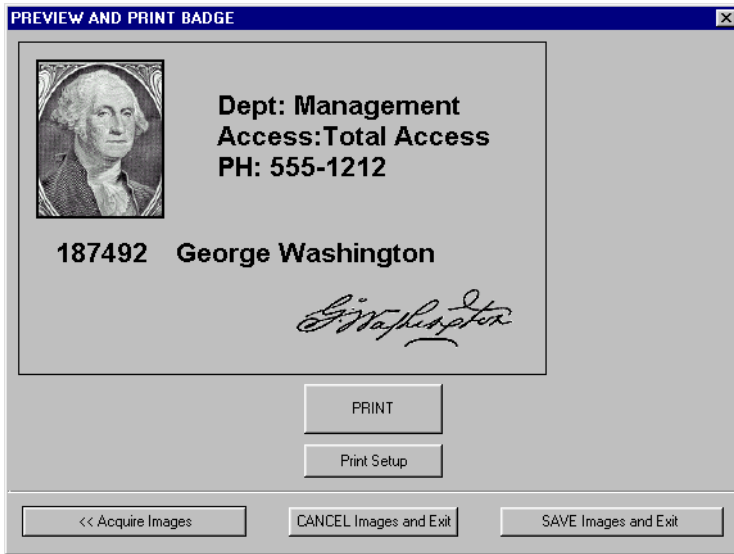

Figure 35: Preview and Print Badge Single-Sided
1. Click the  button and the Preview and Print Badge window opens and a sample of the badge is displayed (see Figure 35 on page 27). If the badge is two-sided, the window adjusts its size to display both sides of the badge (see Figure 36 on page 27).